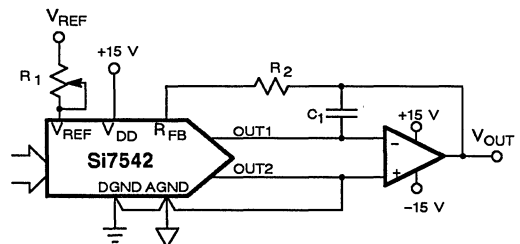
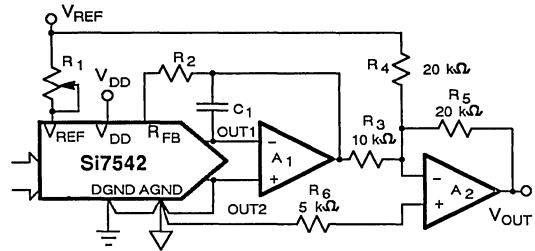

Figure 5. Unipolar Binary Operation (2 - Quadrant)
Figure 6. Bipolar Operation (4 - Quadrant Multiplication)
- e. Gain error is measured using internal  $R_{FB}$  only. Gain error can be trimmed to zero using circuits of Figures 5 and 6.
Gain error or full-scale error is a measure of the difference between an ideal DAC's and the actual device output. For the Si7542, ideal full-scale output is  $-(4095/4096) \cdot (V_{REF})$ . Gain error is adjustable to zero using external trims as shown in Figures 5 and 6.
Figure 5 shows the analog circuit connections required for unipolar binary (2-quadrant multiplication) operation. The logic inputs are omitted for clarity. With a DC reference voltage or current (positive or negative polarity) applied at pin 15, the circuit is a unipolar D/A converter. With an AC reference voltage or current the circuit provides 2-quadrant multiplication (digitally controlled attenuation). The input/output relationship is shown in Table 1.
Unipolar Binary Code Table for Circuit of Figure 5
Figure 6 and Table 2 illustrate the circuitry and code relationship for bipolar operation. With a DC reference (positive or negative polarity) the circuit provides offset binary operation. With an AC reference, the eleven LSBs provide digitally controlled attenuation of the AC reference while the MSB provides polarity control.
Bipolar Binary Code Table for Circuit of Figure 6
Additionally, the  $\overline{\text{CLR}}$  input allows the Si7542 DAC register to be cleared asynchronously to 0000 0000 0000. When operating the Si7542 in a unipolar mode (Figure 5), a  $\overline{\text{CLEAR}}$  causes the DAC output to assume 0 V. In the bipolar mode (Figure 6), a  $\overline{\text{CLEAR}}$  causes the DAC output to go to  $-\text{V}_{\text{REF}}$ .
- 4. Gain Temperature Coefficients:** The gain temperature coefficient of the Si7542 has a maximum value of 5 ppm/°C and a typical value of 2 ppm/°C. This corresponds to gain shifts of 2.0 LSBs and 0.82 LSBs respectively over a 100°C temperature range. When trim resistors are used to adjust full-scale range as shown in Figures 5 and 6 the temperature coefficient of R1 and R2 should be taken into account. It may be shown that the additional gain temperature coefficients introduced by R1 and R2 may be approximately expressed as follows: